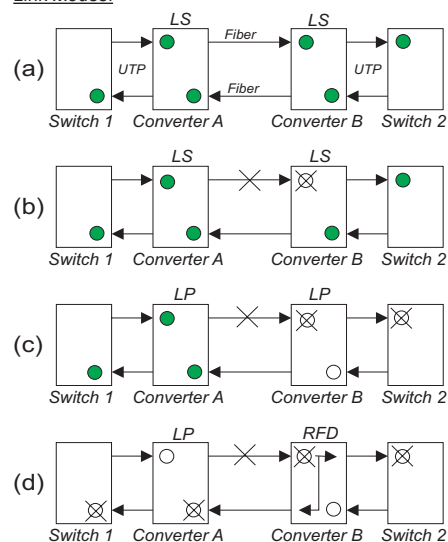

Fig. 2: Link Modes
In "Link Segment" (LS), sometimes referred to as the "Normal" mode, a port transmits a "Link" signal independently of any received "Link" at any other port. For example, the UTP transmits a "Link" regardless of the fiber receiving a "Link" [Fig 2(b)].
In "Link Propagate" (LP), sometimes referred to as "Link Loss Carry Forward", a port transmits a "Link" signal only when receiving a "Link" at its other port. For example, the UTP transmits a "Link" only when receiving a "Link" at the fiber port. [Fig 2(c)].
In "Remote Fault Detection" (RFD), the UTP port transmits a "Link" signal only when receiving a "Link" at the fiber port. The fiber port transmits a "Link" only when receiving "Link" signals both at the fiber port and the UTP port. As a result, fiber faults (no "Link" received at the fiber) are looped-back and can be reported to the network's core [Fig 2(d)].